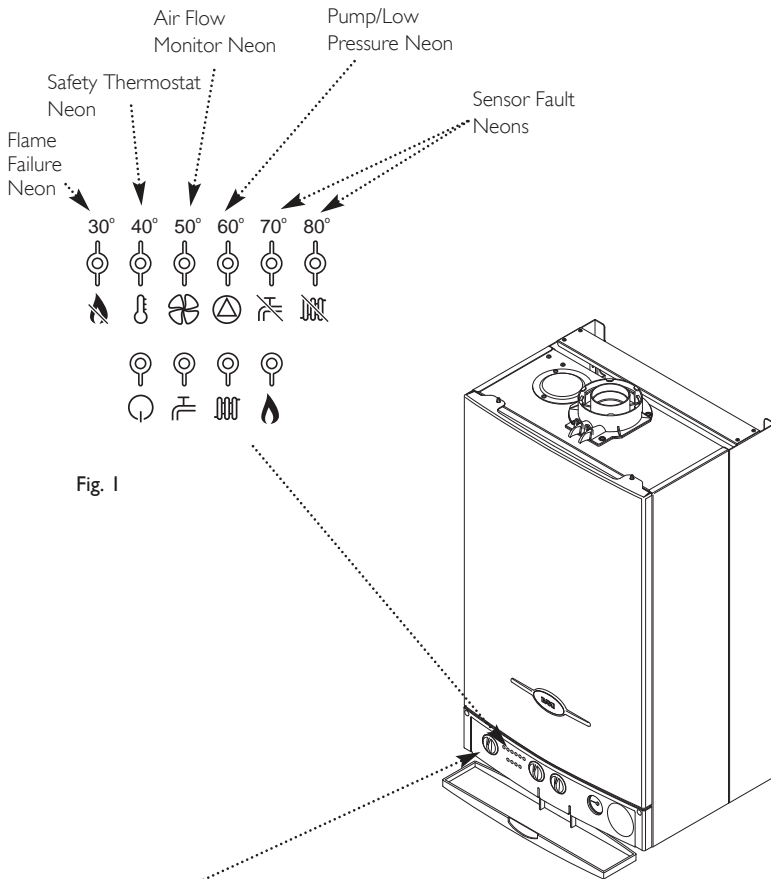

Fig. 1
2. If the (  ) neon illuminates it indicates that the flue or flue terminal is blocked or obstructed in some way, or that there is an internal fault. If there is no external blockage of the flue terminal that can be easily removed contact your Installer or Service Engineer (Fig. 1).
1. The neon (  ) will illuminate if the circulating pump is faulty or the system pressure drops below the minimum requirement (Fig. 1).
1. When either of the (  ) or (  ) neons is illuminated a fault on one of the temperature sensors is indicated (Fig. 1). Contact your Installer or Service Engineer.
1. Your Baxi Combi HE is fitted with an additional safety devices, which shut down the boiler in the event of the system, boiler or flue overheating. The safety thermostat neon (  ) will light in this instance (Fig. 1).
1. The red flame failure neon (  ) will illuminate in the event of the burner failing to light, when incomplete lighting of the burner occurs or blockage of the condensate drain (Fig. 1).